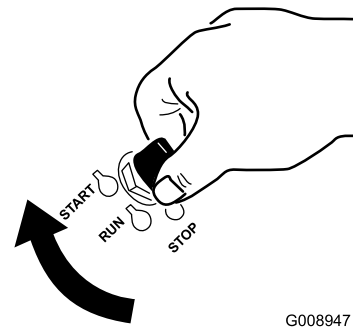

Figure 20
6. Turn the ignition key to the Start position (Figure 20).